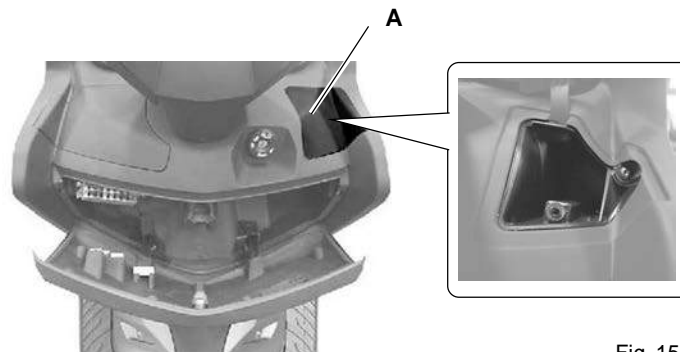

Fig. 15
- On the right hand side of the lower fairing, you will find a small container (A - Fig. 15).